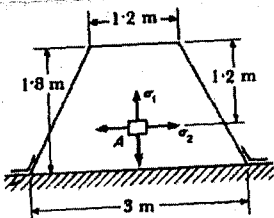

Fig. Q2
2. A truncated conical tank having the dimensions shown in fig Q2 is filled up with water ($w = 1 \text{ gm/cm}^3$). Calculate the membrane stresses σ_1 & σ_2 for an element A of the wall situated as shown in the Figure if $t = 0.03$